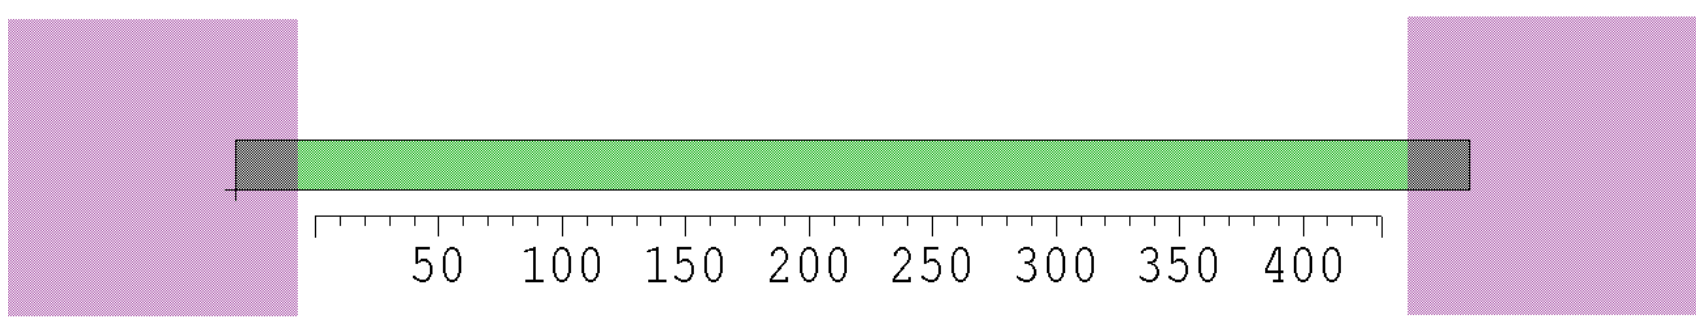

Figure 2
4. Your final design should look like Fig 2. Save the file as First-name Last-name initial_HW1 (e.g. CherryG_HW1.tdb)